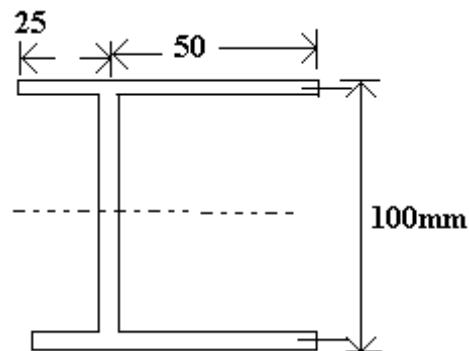

Figure 1:
2. Thickness is uniform 10mm. Determine the shear flow and shear force for the entire structure shown in figure 1. [16]